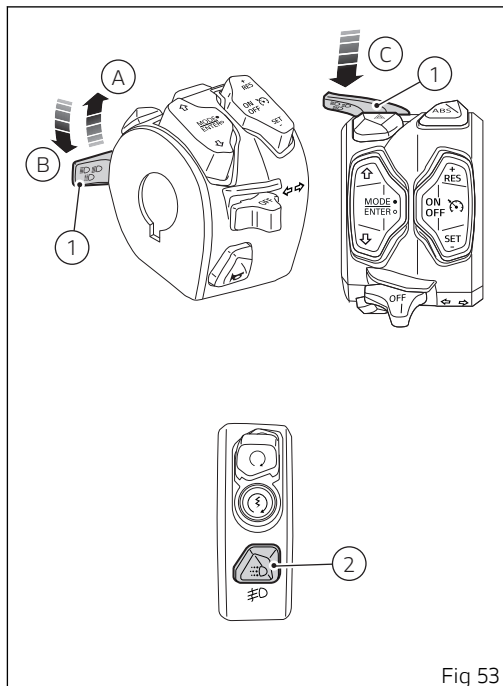

Fig 53
When the DRL are set to "Auto" mode, the corresponding warning light (16, Fig 75) will turn on. By pressing button (2, Fig 53) DRL are turned off; by pressing again button (2, Fig 53) DRL turn on with control strategy set to "Manual".
If DRL have been set in "Manual" mode (see page 227), to turn off or on the DRL, use button (2, Fig 53). When the DRL are set to "Manual" mode, the corresponding warning light (17, Fig 75) will turn on.
- if DRL are present, press and hold button (2, Fig 53) for a long time;
- if DRL are not present, press button (2, Fig 53).